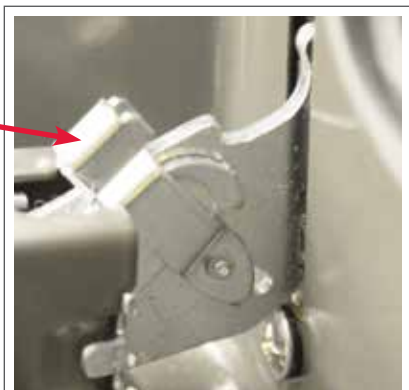

Fig. 4
- Tilt and lift the safety catch part of the hinge (fig. 4) so that it is fully lifted and points towards the door.